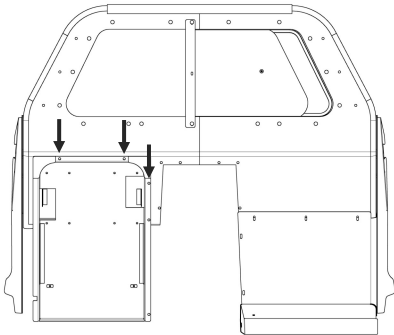

Figure 7a
- D. Remove the ballistic panel from the Viper Shield Housing [VSHA001]. Slide the housing into position on the driver side of the partition and hang in place by loosely installing a carriage bolt [3X36] and whiz nut [3X16Z] into the top (3) holes (Fig 7a).